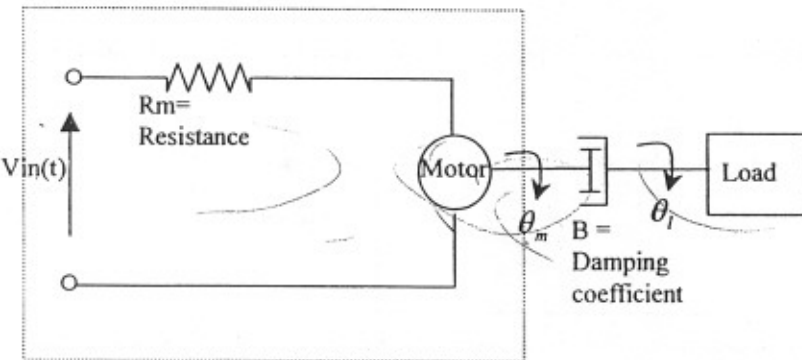
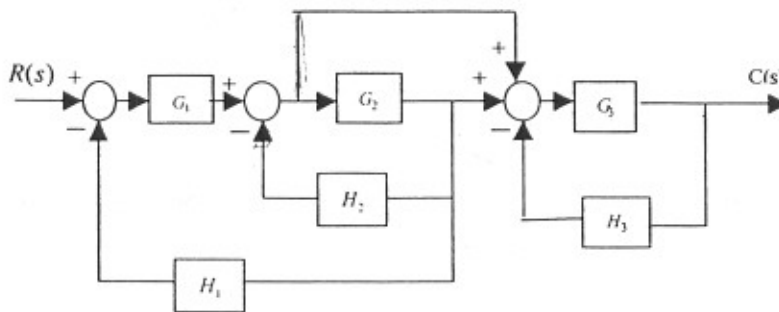

Figure 1
Figure 2
(22) Q1: An electromechanical system is shown in Figure 1:
- Write the differential equations of the electromechanical system in Figure 1 and find their Laplace transform.
- Assuming that the input is V_{in} and the output is θ_l , draw a block diagram representation of the system in Figure 1.
(20) Q2:
- Use block diagram reduction to obtain the transfer function $\frac{C(s)}{R(s)}$ of the system represented by the block diagram in Figure 2.